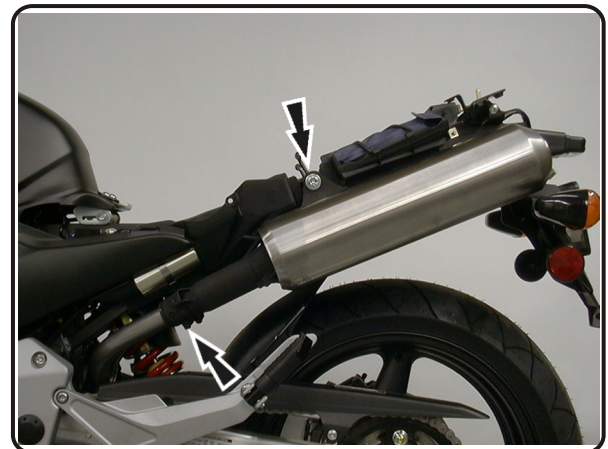

Fig. 2
- 4 Unbolt and remove stock mufflers with tailpipes. (See Fig. 2)